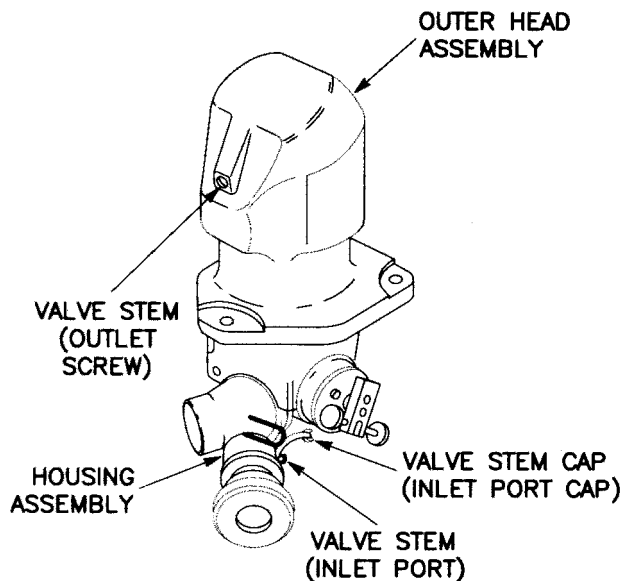

Figure 3-47 Backup Sight, PN 12316793
a. BFV TOW/TOW2 SUBSYSTEM (M2, M3, M2A1, M3A1, M2A2, AND M3A2 (figs. 3-47 through 3-52).
(1) Backup Sight, PN 12316793, (fig. 3-47).